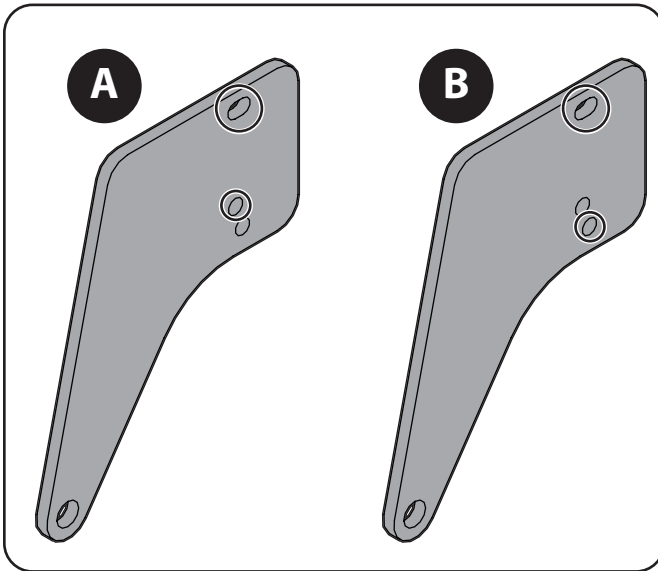
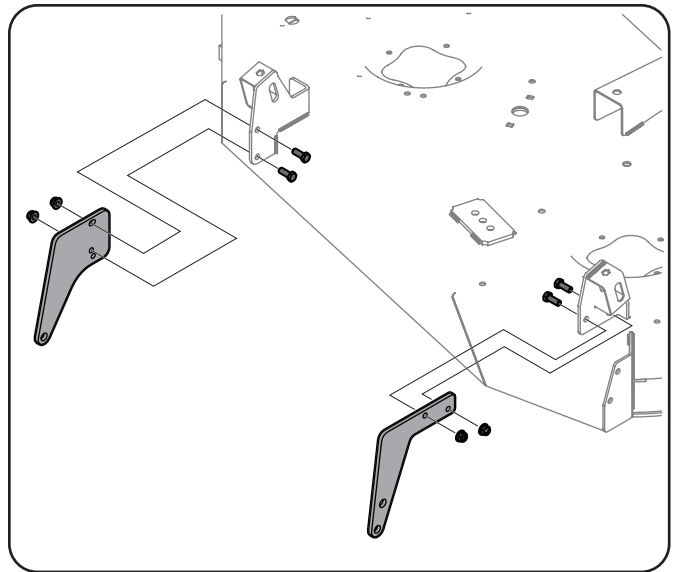

Figure 1-14
Figure 1-15
1. Use Figure 1-14 below to identify which mounting holes to use in mounting the Left Roller Bracket (#6) to the deck. Fabricated Decks - Use mounting hole locations "A". Stamped Decks - Use mounting hole locations "B"
2. Install the Left and Right Roller Brackets (#6 & #7) to the location shown in Figure 1-14 on the Tractors deck with two Hex-head Capscrews (#1) and two 3/16 Lock Nuts (#3) per side. See Figure 1-15.